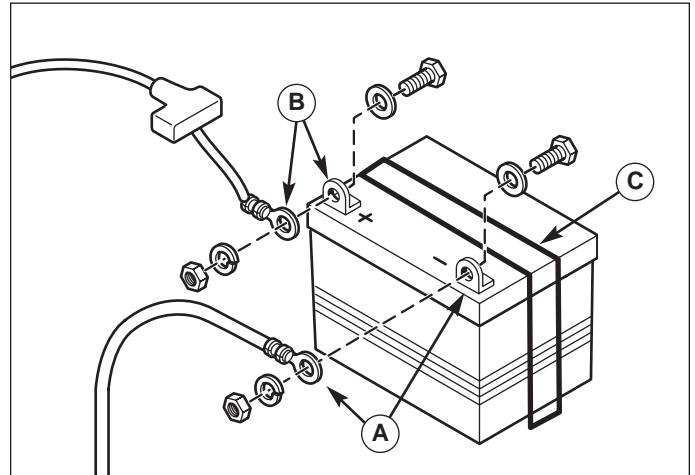

Figure 17. Battery
1. Disconnect the cables from the battery, negative cable first (A, Figure 17).
2. Remove the battery hold-down (C) and battery.
5. Reinstall the battery in the battery compartment, and secure with the battery hold down (C).
6. Reattach the battery cables, positive cable first (B).